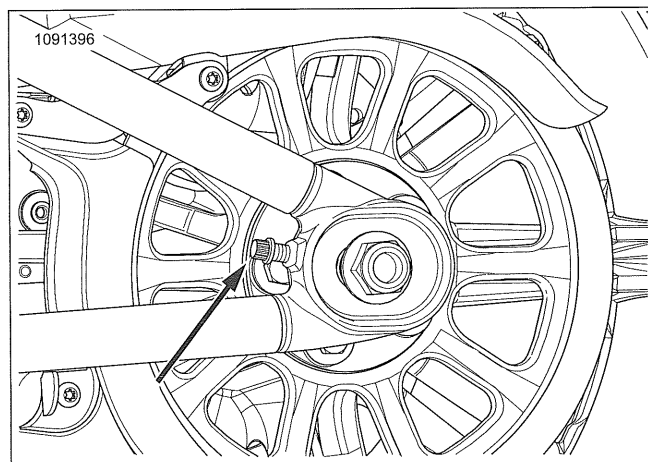

Figure 3-36. Rear Axle Adjustment Screw
2. See Figure 3-36. Adjust rear axle.